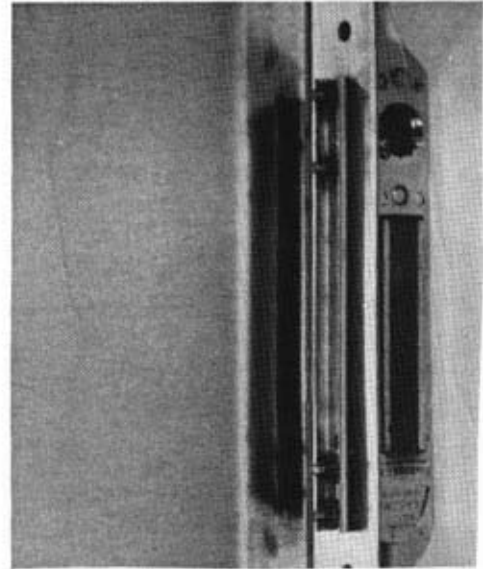

FIG. 16
4. Remove the four (4) screws, nuts and nut channel securing defective latch to outer door panel (See Figure 16).
5. Replace the four (4) screws, nuts and nut plate securing new latch to outer door panel.
6. Remove the two (2) screws securing defective magnet plate to cabinet.
7. Replace the two (2) screws securing new magnet plate to cabinet.